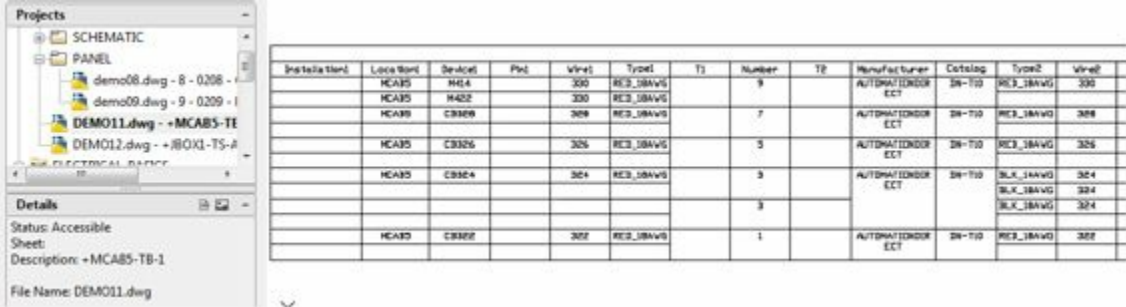

Figure-35. Table created
- Click on the **OK** button from the dialog box. Drawing will be added in the current project having tables created recently; refer to Figure-35.